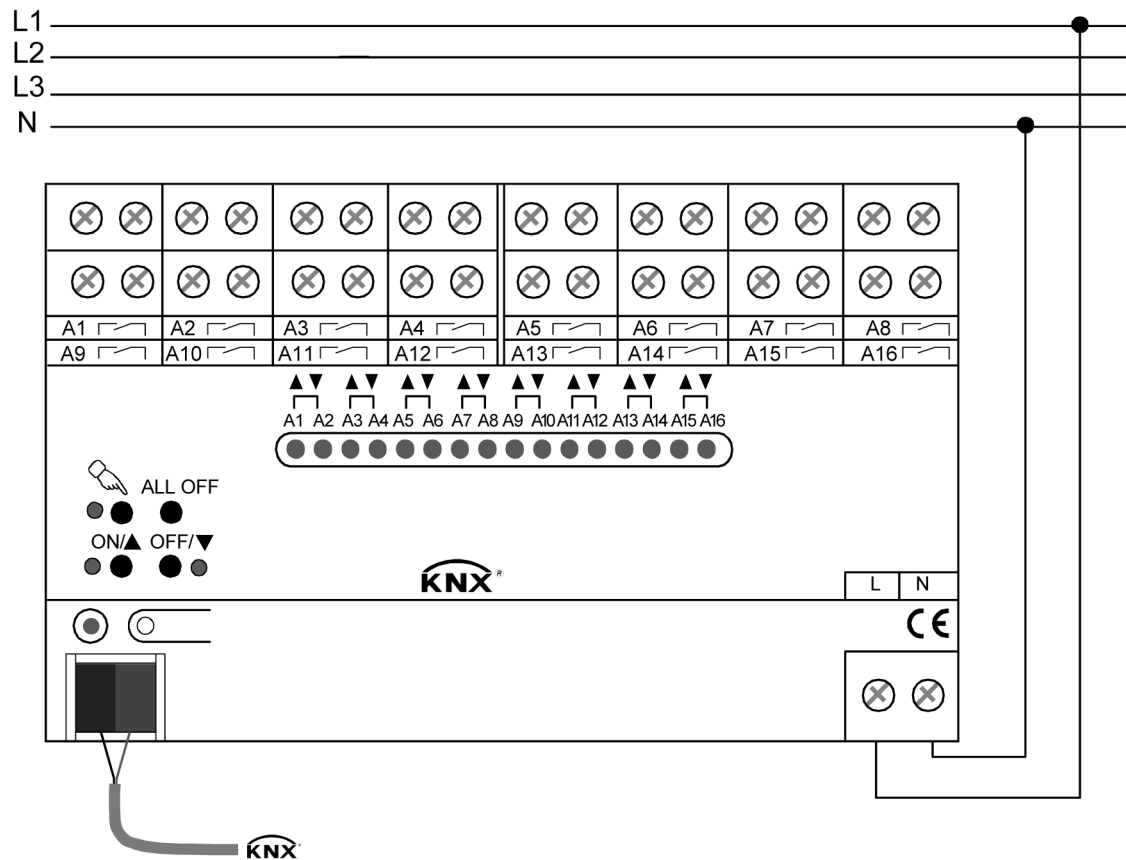

Figure 4: Electrical connection of mains voltage
- Connect the bus (standard bus terminal) and the mains voltage supply as shown in (figure 4) (connection example).